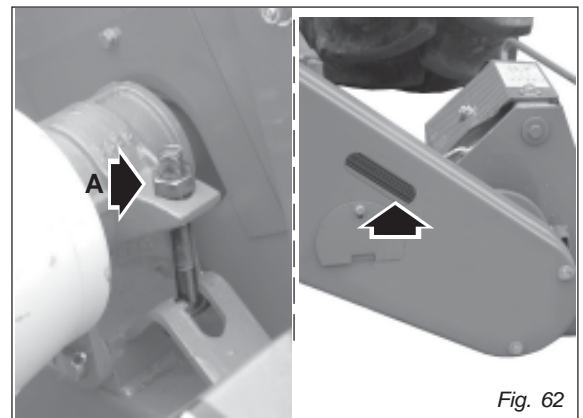

Fig. 62
- Adjust belt tension periodically by adjusting nut (A, Fig. 62). Check tension via the viewing panel on the belt guard. Belt slack must not exceed 1 inch. It is essential to close the inspection hatch with the relative lid after the belts have been examined.
- remove one or more shims (Fig. 62);